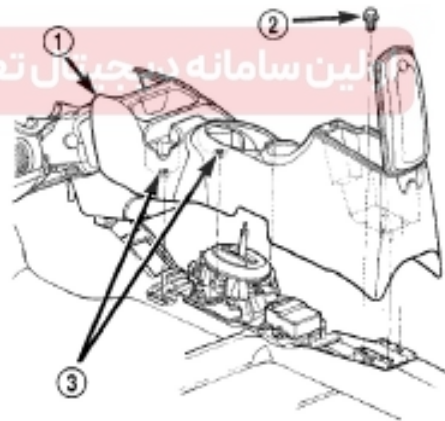

Figure 3-152 Auxiliary fascia console
شرکت (3) Remove the auxiliary fascia console (Figure 3-152).
- (4) Mount the auxiliary fascia console (Figure 3-152).
- (5) Fix components of sleeve with gasket on the shifting support and mount the sleeve gasket on the auxiliary fascia console.
- (6) Fix the shift lever knob on the shifting support.
- (7) Verify if the gear is proper and normal.